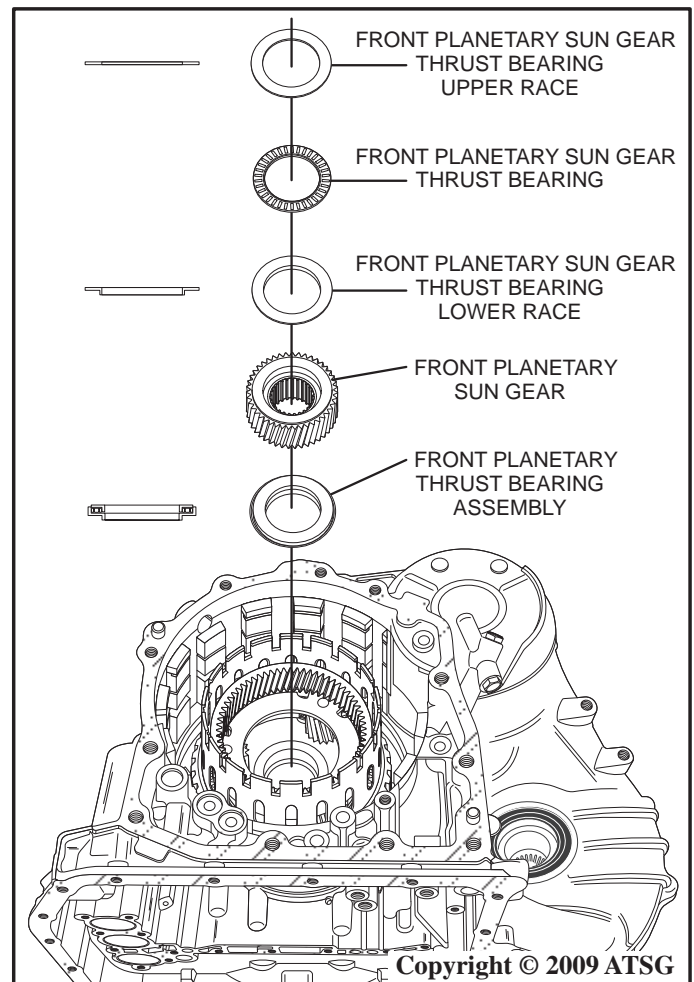

Figure 155
18. Install the front planetary thrust bearing with the lip down as shown in Figure 155.
19. Install the front planetary sun gear as shown in Figure 155.
20. Install the thrust bearing lower race with the lip down and the bearing as shown in Figure 155.
21. Install the thrust bearing upper race as shown in Figure 155. If necessary, use a small amount of Trans-Jel® to hold the bearing in place.